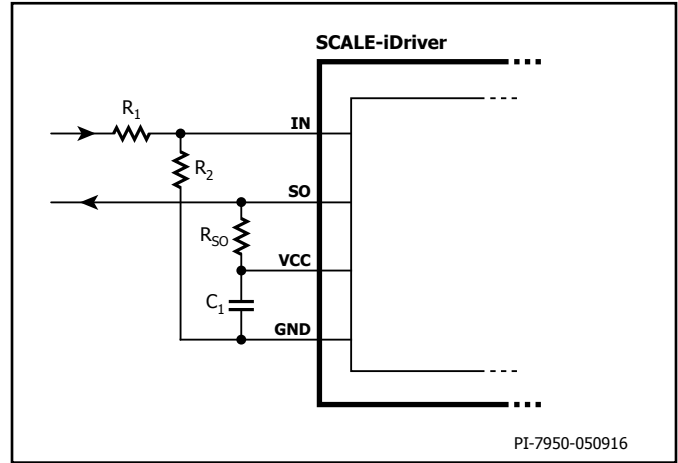
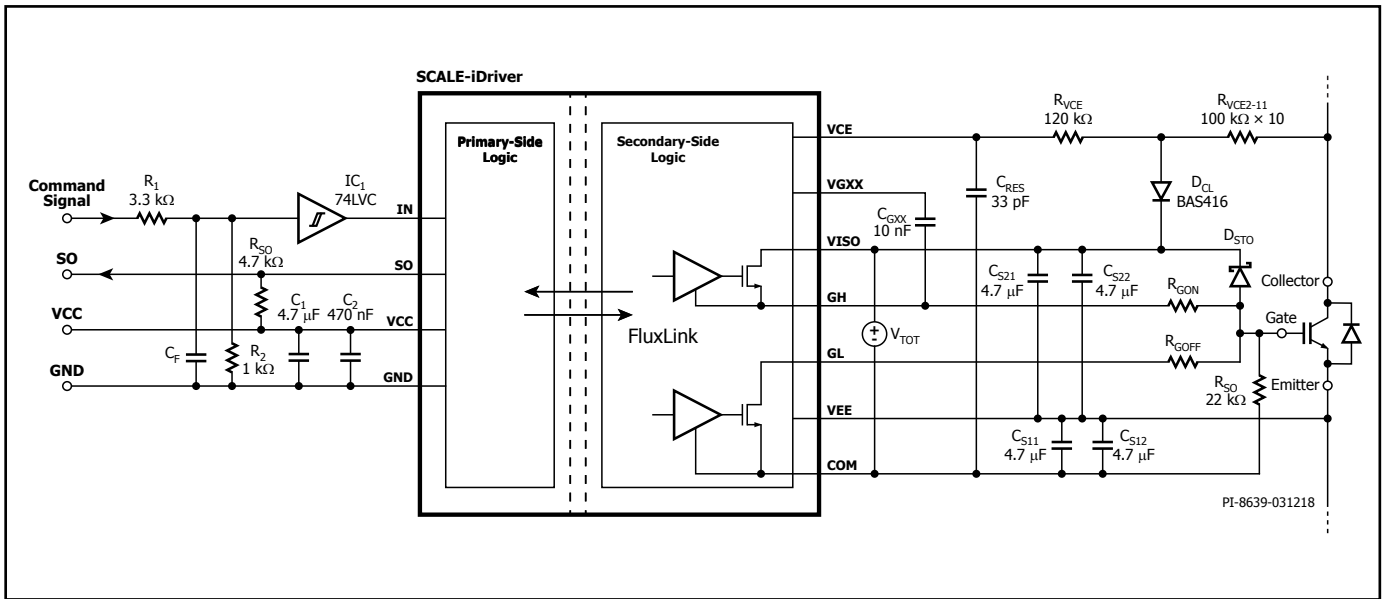

Figure 5. Increased Threshold Voltages  $V_{IN+LT}$  and  $V_{IN+HT}$  For  $R_1 = 3.3 \text{ k}\Omega$  and  $R_2 = 1 \text{ k}\Omega$  the IN Logic Level is 15 V.
Figure 13. SCALE-iDriver Application Example Using a Resistor Network for Desaturation Detection.
The input (IN) and output (SO) logic is designed to work directly with micro-controllers using 5 V CMOS logic. If the physical distance between the controller and the SCALE-iDriver is large or if a different logic level is required the resistive divider in Figure 5, or Schmitt-trigger ICs (Figures 13 and 14) can be used. Both solutions adjust the logic level as necessary and will also improve the driver's noise immunity.
and power-down. Any supply voltage related to VCC, VISO, VEE and VGXX pins should be stabilized using ceramic capacitors  $C_1$ ,  $C_{S1X}$ ,  $C_{S2X}$ ,  $C_{GXX}$  respectively as shown in Figures 13 and 14. After supply voltages reach their nominal values, the driver will begin to function after a time delay  $t_{START}$ .
Figures 13 and 14 show the schematic and typical components used for a SCALE-iDriver design. In both cases the primary-side supply voltage ( $V_{VCC}$ ) is connected between VCC and GND pins and supported through a supply bypass ceramic capacitor  $C_1$  (4.7  $\mu$ F typically). If the command signal voltage level is higher than the rated IN pin voltage (in this case 15 V) a resistive voltage divider should be used. Additional capacitor  $C_F$  and Schmitt trigger  $IC_1$  can be used to provide input signal filtering. The SO output has 5 V logic and the  $R_{SO}$  is selected so that it does not exceed absolute maximum rated  $I_{SO}$  current.
Figure 13 shows how switch desaturation can be measured using resistors  $R_{VCE2} - R_{VCE11}$ . In this example all the resistors have a value of 100 kΩ using 1206 package. The total resistance is 1 MΩ. The resistors should be chosen to limit current to between 0.6 mA to 0.8 mA at maximum DC-link voltage. The sum of  $R_{VCE2} - R_{VCE11}$  should be approximately 1 MΩ for 1200 V semiconductors and 500 kΩ for 600 V semiconductors. In each case the resistor string must provide sufficient creepage and clearance distances between collector of the semiconductor and SCALE-iDriver. The low leakage diode  $D_{CL}$  keeps the short-circuit duration constant over a wide DC-link voltage range.
Table 2. PCB Layout and Component Guidelines Referring to Figure 13.